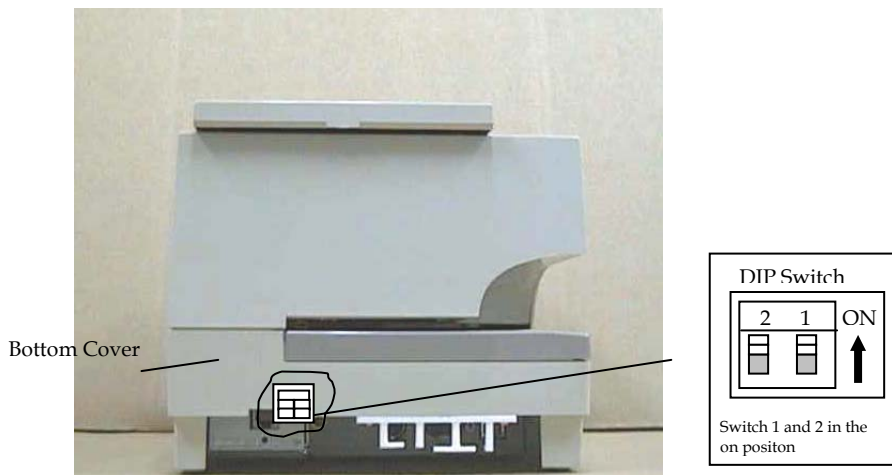

Figure 25 - DIP Switch Setting
2. Turn the printer so that the back of the printer is facing you. (Figure 25)
3. Set the DIP Switch to Vendor Adjustment Mode. (Figure 25)